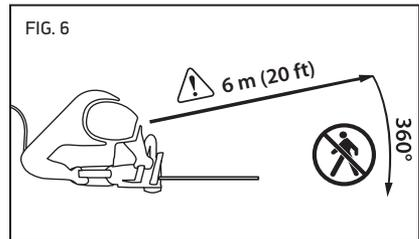

FIG. 6
⚠ CAUTION: Establish a bystander safety zone of 6 m (20 ft) prior to operation of this equipment. Bystander safety zone is a minimum 6 m (20 ft) circle around the operator that must remain free from bystanders, children and pets (Fig. 6). Felling operations require a larger safety zone according to the size of the tree, see “Felling a Tree” section.
- Make sure bystanders or helpers are a safe distance from falling branches. Bystanders or helpers should not stand directly in front of or behind the operator. See Fig. 6.